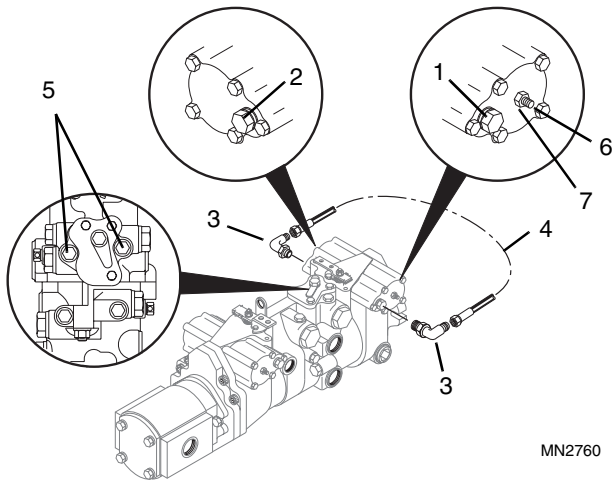

Figure 7-42 Neutral Centering Adjustment Connections
25. Remove the port plugs (Fig. 7-42, 1 & 2) from both sides of the servo housing and install two 9/16-18, 90° elbow o-ring fittings (3) into the left (1) and right (2) servo housing ports. Install a hose (4) rated at 1000 psi (69 bar) to both fittings to cross-connect both sides of the servo piston. This removes the effect of any control pressure on the servo piston.
26. Remove the port plugs (Fig. 7-42, 5) that correspond to the individual control pump being inspected and adjusted, and install two 10,000 psi (69 bar) pressure gauges in the ports (5) on the main control pump.
28. Hold the servo adjustment screw (Fig. 7-42, 6) in place, and loosen the locknut (7).
29. Turn the servo adjustment screw (Fig. 7-42, 6) until both pressure gauge readings are equal.
30. Turn the servo adjustment screw (Fig. 7-42, 6) clockwise until one gauge begins to show an increase in pressure, and stop.
31. Noting the revolutions required, turn the servo adjustment screw (Fig. 7-42, 6) counterclockwise, until the second gauge just begins to show an increase in pressure, and stop.
32. Divide the total quantity of revolutions counted in Step 31 in half, and turn the servo adjustment screw (Fig. 7-42, 6) clockwise this amount.
33. Holding the servo adjustment screw (Fig. 7-42, 6) in this position, tighten the adjustment screw locknut (7), and torque to 13-18 lb/ft (17-24 Nm).
34. Remove both pressure gauges from the gauge ports (Fig. 7-42, 5) on the main control pump, replace both gauge port plugs, and tighten securely.
35. Remove the cross-connect hose (Fig. 7-42, 4) and two fittings (3) from the left and right servo housing, and replace the port plugs (1 & 2).